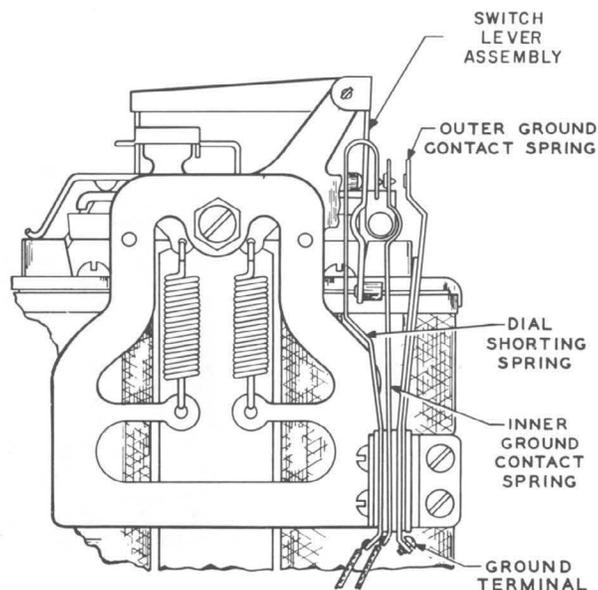

Fig. 4 - D-96590 Dial Shorting Relay, 3-Spring (Guard Cut Away)
**4.04** With coin trigger and operating arm in normal unoperated positions, dial shorting contact springs should have perceptible follow. With coin trigger tripped, they should be open; judge visually. (See Fig. 4 and 5.)